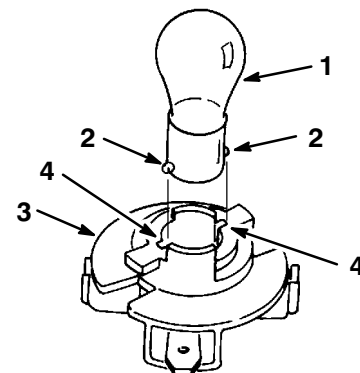

Figure 35
4. Push and rotate the bulb counterclockwise until it stops (approx. 1/4 turn) and remove bulb from the bulb holder (Fig. 35).
1. The bulb has metal pins on the side of its base. Align the pins with the slots in the bulb holder and insert the base into the holder (Fig. 35). Push and rotate the bulb clockwise until it stops.